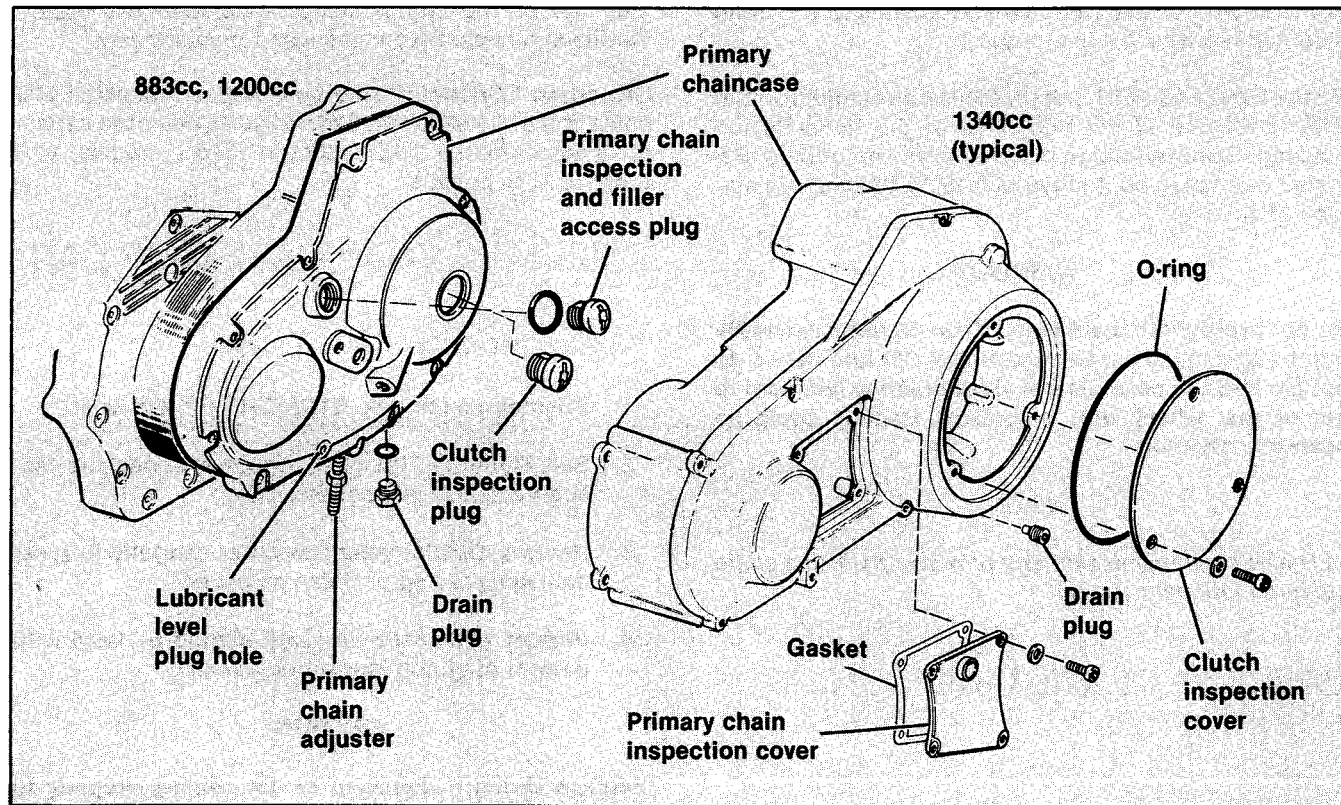

Figure 28. Primary Chaincase
2. See Figure 28. Remove screws and washers that secure clutch inspection cover.
See Figure 28. The drain plug is located on the underside of the chaincase. The filler access is located near the top of the chaincase cover. The lubricant level plug is located near the bottom of the chaincase cover. To determine correct lubricant level in the transmission and chaincase compartments, proceed as follows: